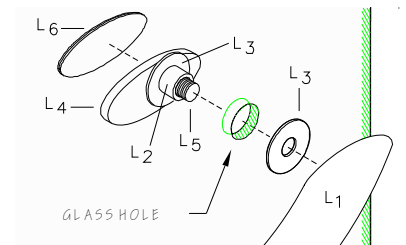

figure 7
Install Towel Bars (L). Slip a Back Plate (L4), a Plastic Washer (L3) and a Sleeve Bushing (L2) onto a Towel Bar Screw (L5) as shown in figure 7. Insert it into the glass hole as shown and attach one end of a the Towel Bar (L1) to it (do not forget plastic washer). Attach the other end of the Towel bar onto the Glass Panel. Tighten down on screws to secure. Cover the screws by placing a Back Plate Cover (L6) over the Back Plate (L5). Repeat step for the remaining Towel bar.